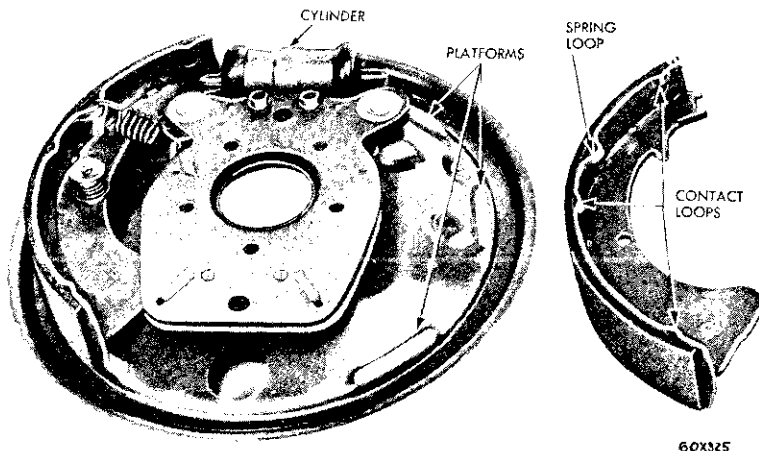

Fig. 3—Raised Platform and Shoe Contact Loops
The new brakes (Figs. 3 and 4) are comprised of newly developed dust shields, brake shoes, return
- (1) Vital parts of the system must be kept **CLEAN**, free from dirt, grease and oil.
- (2) The system must be free from entrapped air and all connections must be tight upon completion of any service job.
- (3) Use only factory recommended type high boiling point MoPar Super Brake Fluid.
10. REMOVING THE BRAKE SHOES (Figs. 3 and 4)